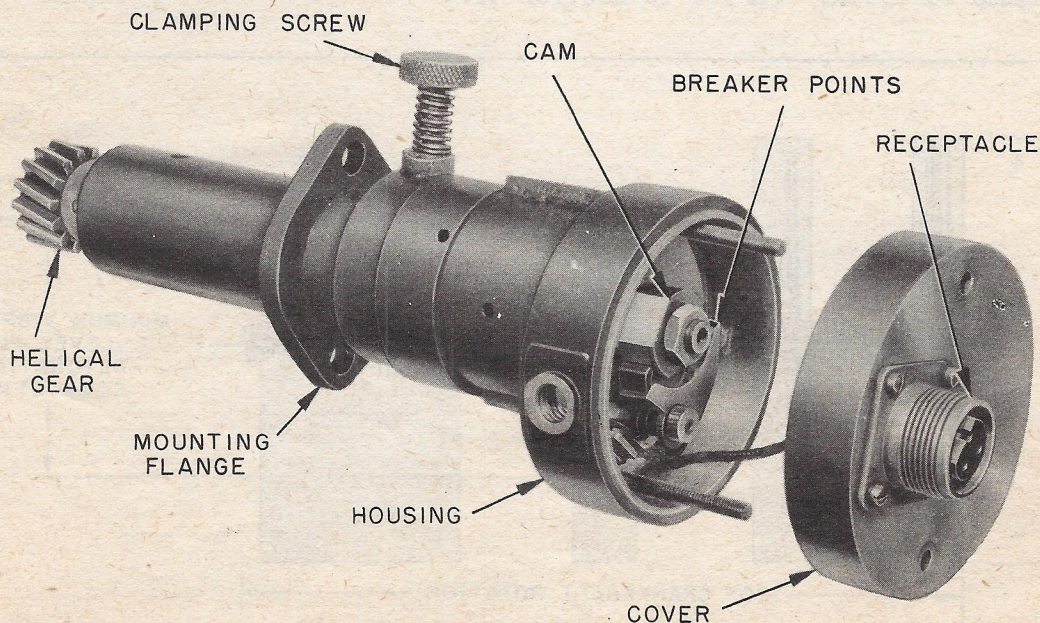

Figure 9 - The Commutator
(1) The commutator (figure 9) contains a shaft to which are affixed a helical gear and a cam. The cam operates a pair of breaker points, one of which is grounded to the case. Except during the combustion period the breaker points short circuit the pick-up signal.
(2) The helical gear (figure 9) meshes with a gear secured to the engine crankshaft and rotates the commutator shaft at half the engine speed.
(3) The clamping screw (figure 9), when loosened, enables the operator, by rotating the commutator housing, to synchronize the duration of breaker point opening with the combustion stroke of the piston.